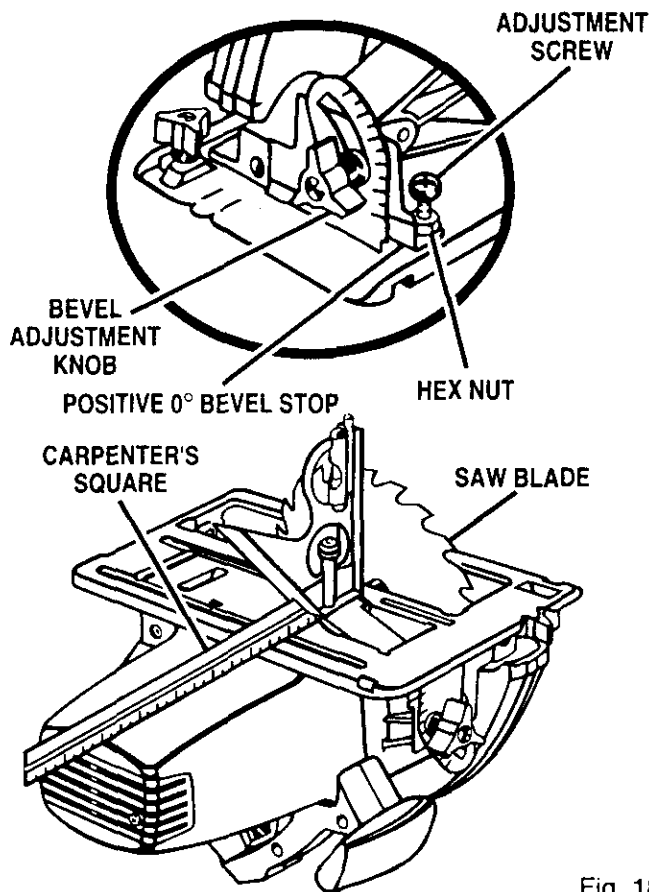

Fig. 18
See Figure 18.
- Place your saw in an upside down position on workbench. See Figure 18.